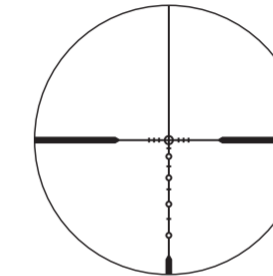
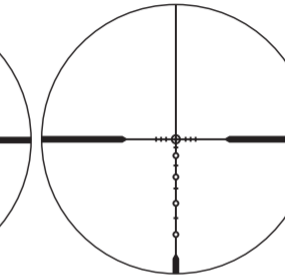

Fig. 3-1
Fig. 3-2
- Look through the eyepiece with your eye positioned about 10 cm (4 in) away from the eyepiece to see the BDC SuperSub Reticle (Fig. 3-1) or Illuminated BDC SuperSub Reticle with Dot (Fig. 3-2). Be sure your eye is positioned with proper alignment and with proper eye relief, otherwise the view will “black out.”